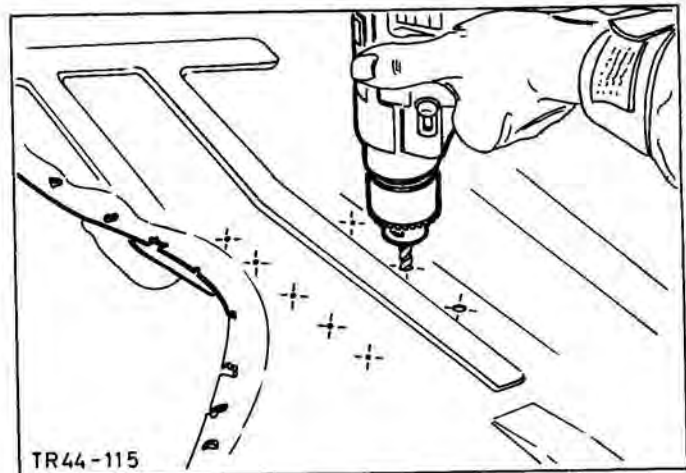

Fig.87. Drill out spot welds at connection between side member and floor panel.
4. Drill out spot welds at connection between side member and floor panel from passenger compartment, in area retaining plate with weld nut, Fig.87.